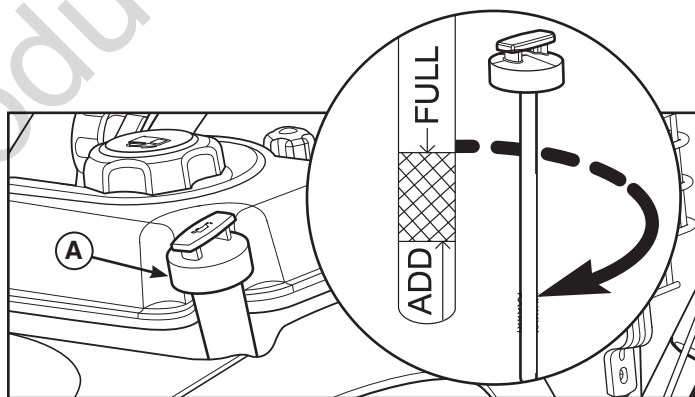

Figure 3
2. Remove the oil fill cap/dipstick (**A**, Figure 3) and wipe with a clean cloth.